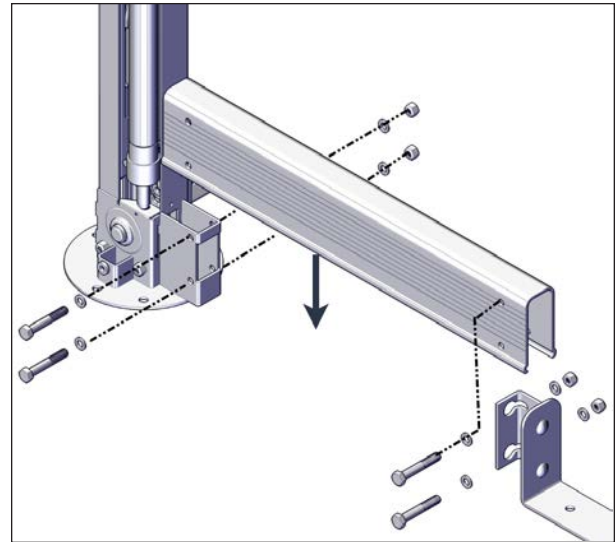

FIGURE 55: SHORT U-SHAPE INSTALLATION
- Fasten a short U-frame to each end of the spa entrance U-frame link and then install the entire assembly between the front posts. Use four hexagonal 5/16"-18 x 2" bolts, four 5/16"-18 nylon-insert lock nuts and eight 5/16" washers(4 by side). Use 1/2" (13 mm) socket wrench and spanner see Figure 55.